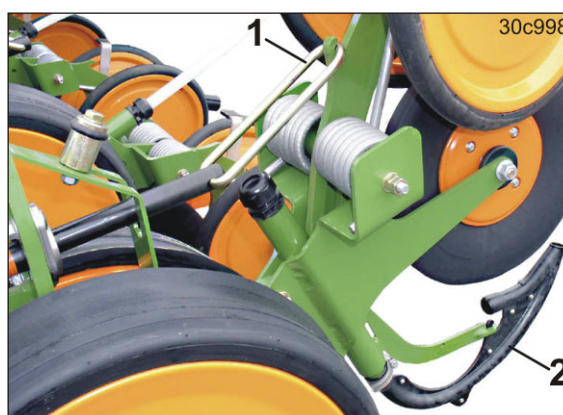

Fig. 271
4. Fold up the press rollers and hook onto the clamp (Fig. 271/1).
5. Clear the blockage in the shoot pipe (Fig. 271/2), remove the shoot pipe to clean it if necessary.